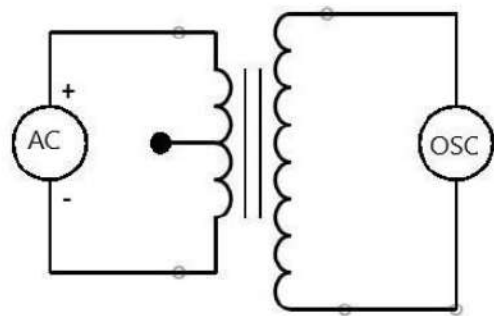

Figure 3
6. Connect the equipment according to the circuit diagram in Figure 3 and repeat the steps above to fill out Table 2.